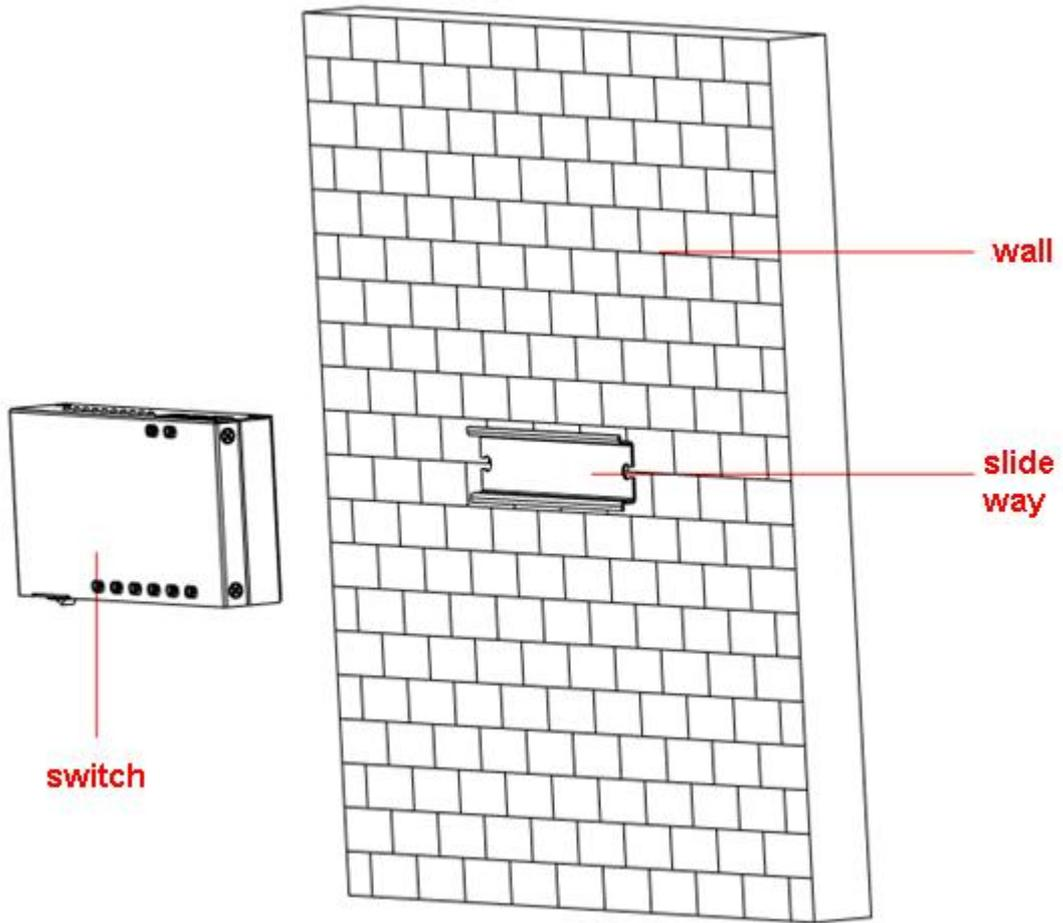

Figure 3-4
Step 3. Slide switch against the wall into slide way, and installation complete, see Figure 3-4.